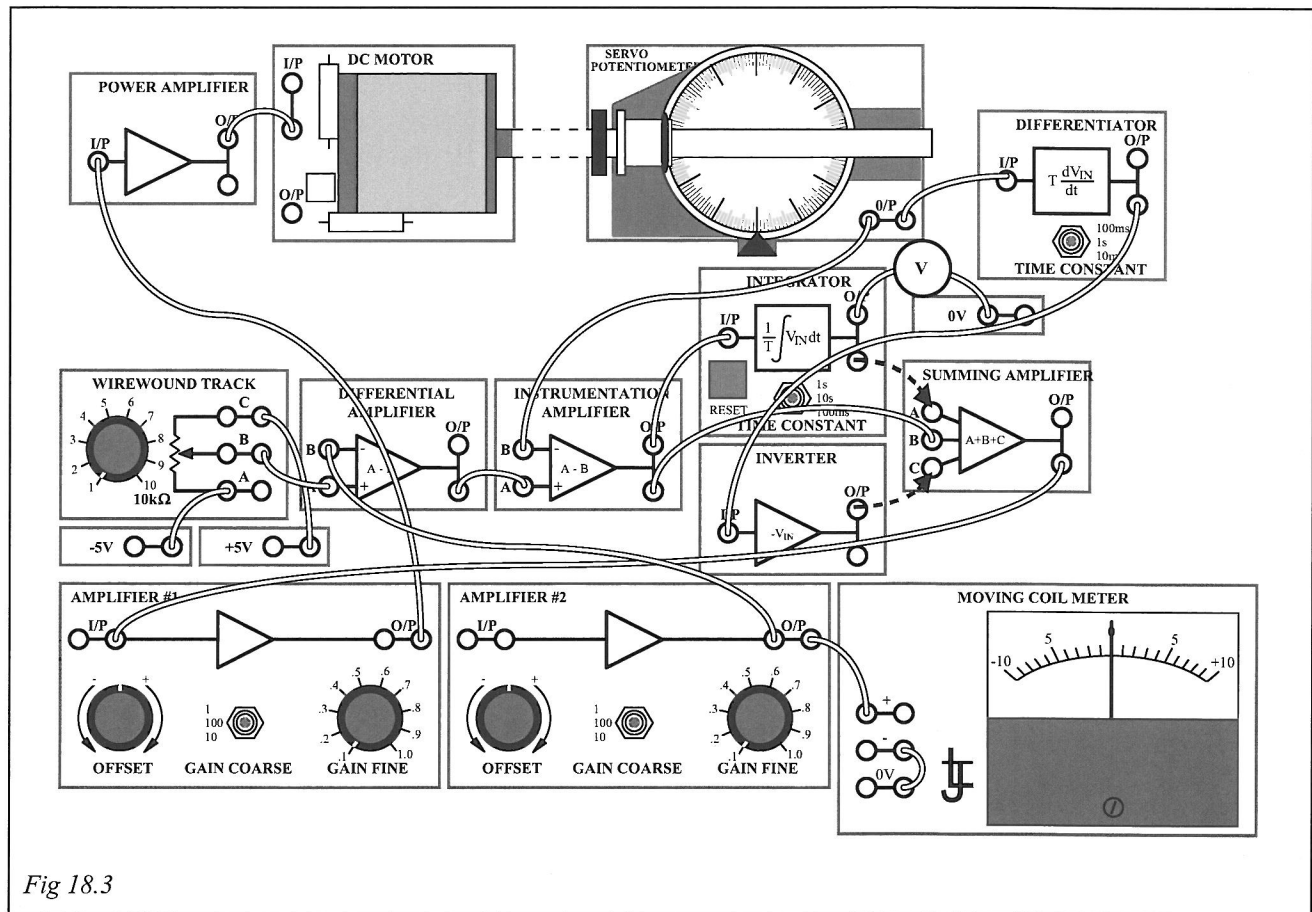

Fig 18.3
- Connect the circuit as shown in Fig 18.3. This circuit is arranged for **proportional** control only.